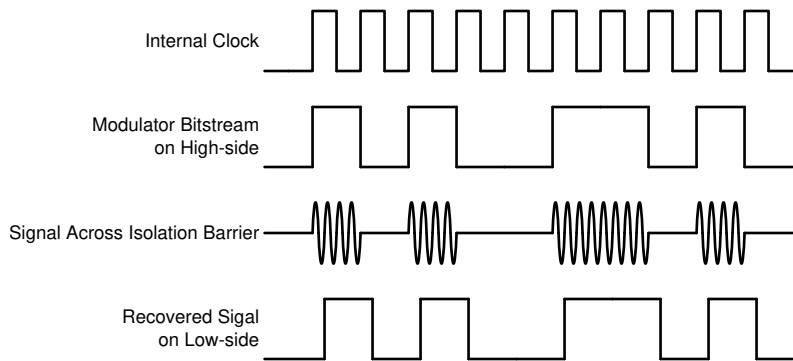

図 7-1. OOK-Based Modulation Scheme
The AMC3301-Q1 uses an on-off keying (OOK) modulation scheme, as shown in 図 7-1, to transmit the modulator output bitstream across the capacitive SiO_2 -based isolation barrier. The transmit driver (TX) shown in the Functional Block Diagram transmits an internally generated, high-frequency carrier across the isolation barrier to represent a digital *one* and does not send a signal to represent a digital *zero*. The nominal frequency of the carrier used inside the AMC3301-Q1 is 480 MHz.